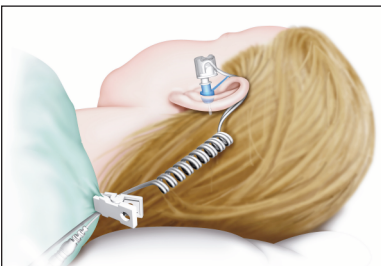

Figure 18: Near vertical ear canal orientation
- c. With the Earplug properly positioned in the ear, recline the patient and tilt the patient's head posteriorly and laterally to achieve a near vertical ear canal orientation (**Figure 18**).